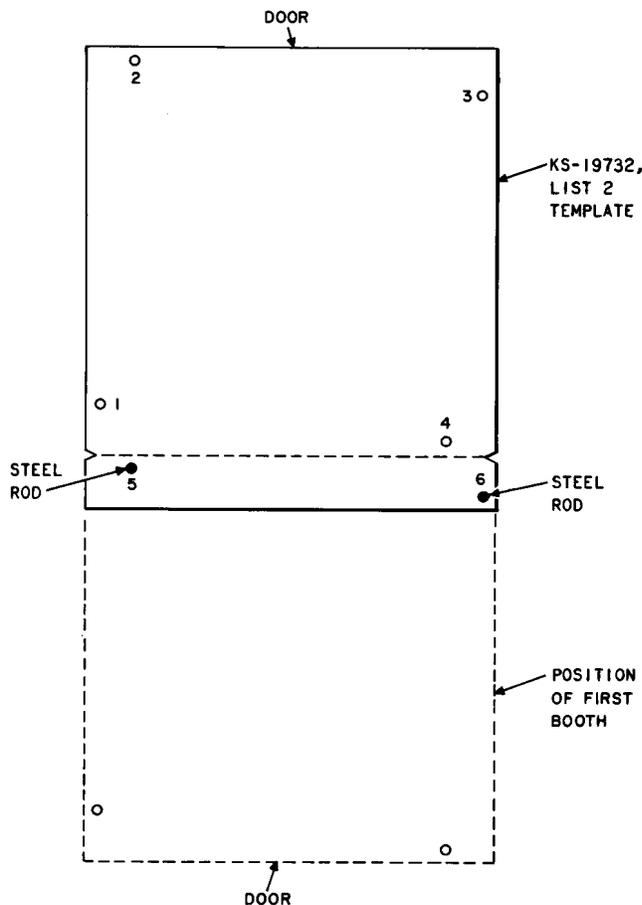

Fig. 18—Back-to-Back Layout for Drilling Mounting Holes
(1) Perform steps outlined in 5.17 or 5.18 for the front line-up.
(2) Move the template behind the first position as shown in Fig. 18 and align template holes 5 and 6 with previously drilled holes 2 and 3, respectively. Insert the two steel rods in these holes.
(3) Drill 1/4-inch holes at positions 1, 2, 3, and 4 to a depth of approximately 1-1/4 inches.